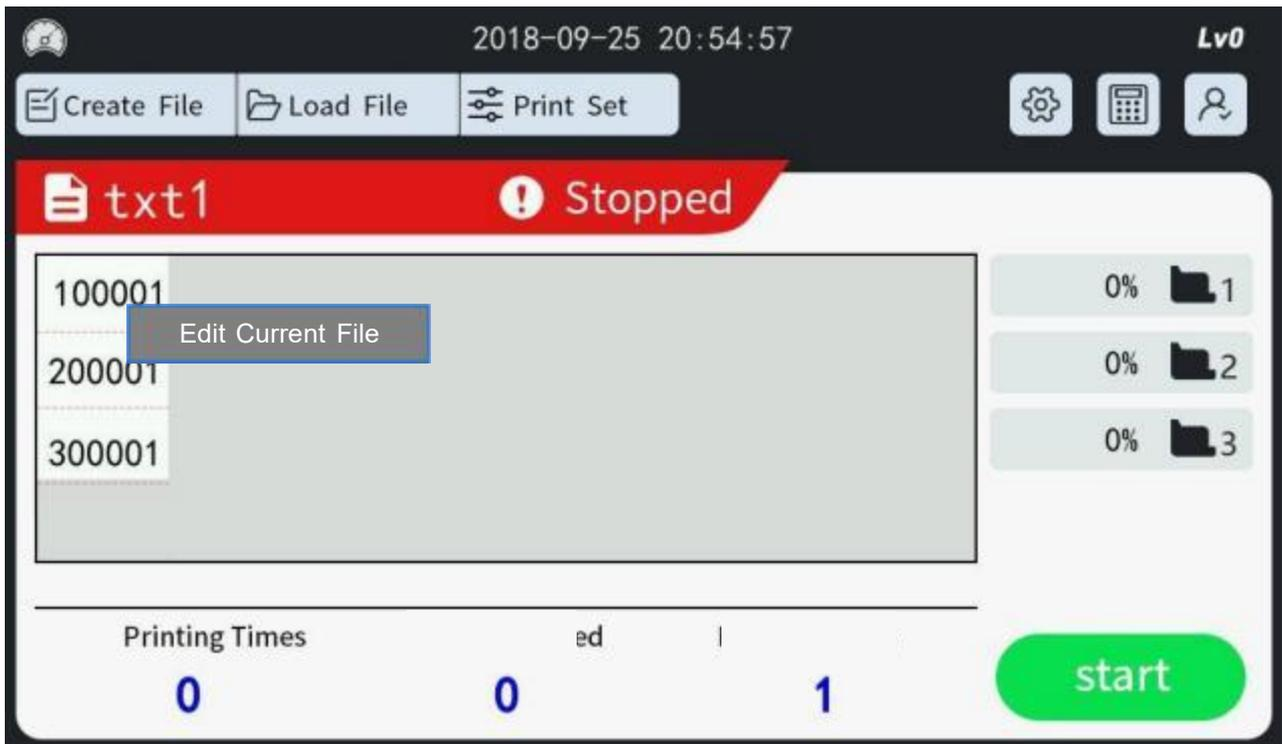

Figure 5-15 File Editing Interface
1. Pressing the "information preview area" for a long time in the main interface and clicking the pop-up "Edit Current File" button, the system will enter the file editing interface. As shown in Figure 5-15.